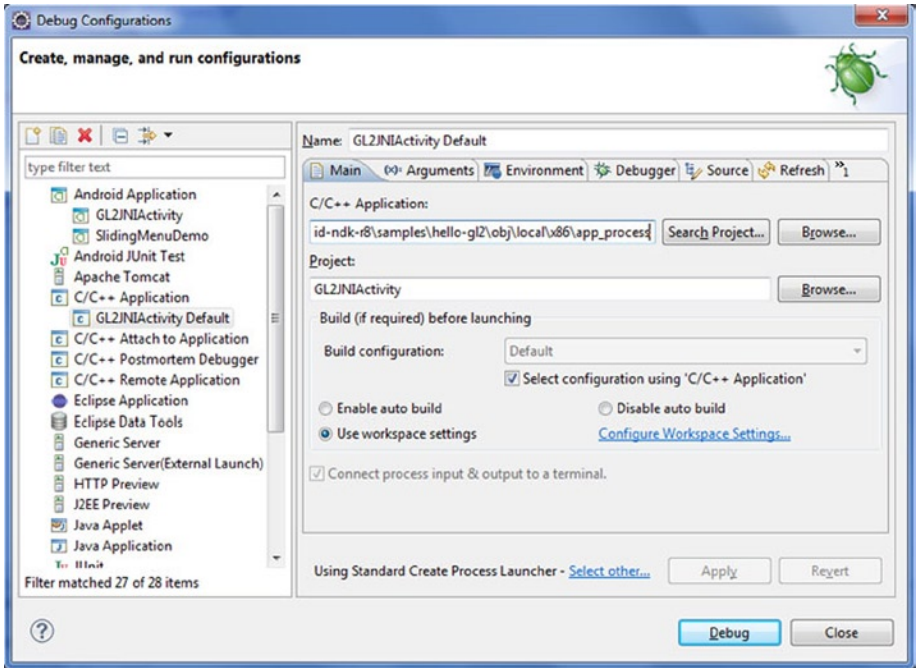

Figure 8-21. Debug Configurations for C/C++ Application
7. In the `Main` tab (see Figure 8-21), set the project to your own project directory. Set the `C/C++ application` to point to `obj\local\x86\app_process` using the `Browse` button (you can use an absolute or relative path).